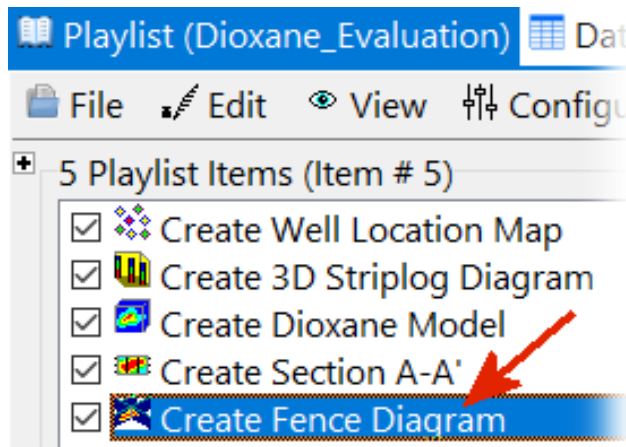

Figure 90
- Click on the Playlist button within the upper-right corner of the menu, save these menu settings as “Create Fence Diagram” (Figure 90), and run the Playlist to make sure that everything works.